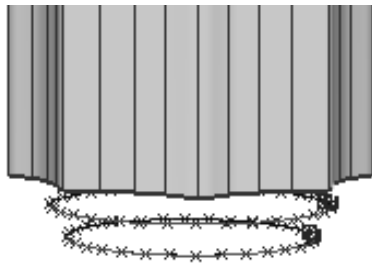

Figure 11-105 Circles created for the base
1. Choose the **Circle** button from the **Curves** tab in the **Palette** and create two circles, as shown in Figure 11-105. Note that these two circles should have different scale factors.